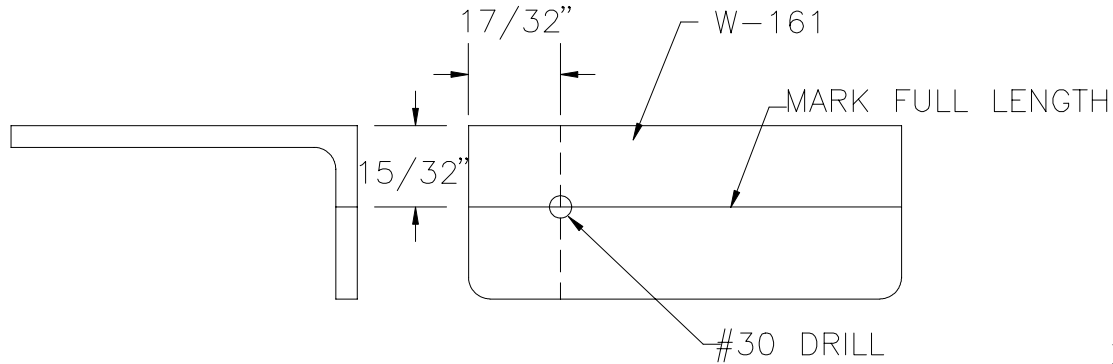

Figure 8.12.1
- 1) On the Root Rib Attach Bracket (W-161). Drill a #30 hole as in Figure 8.12.1.